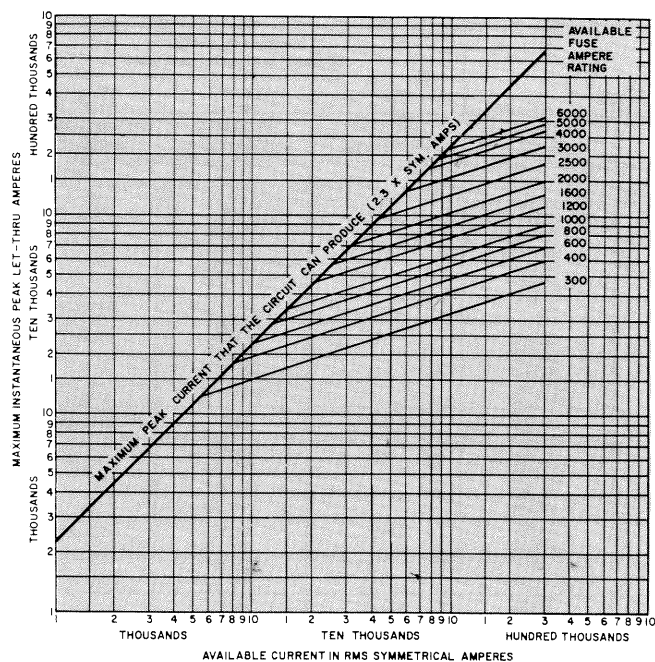
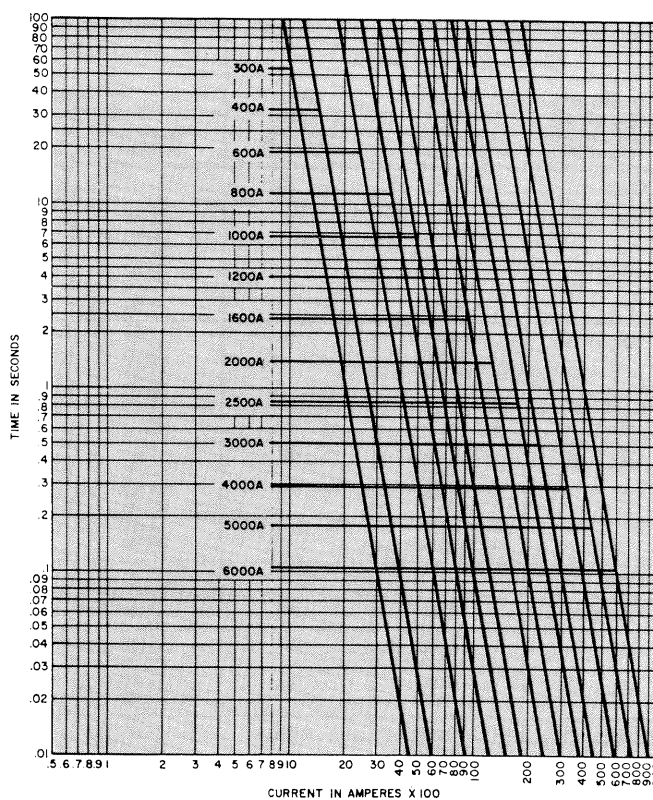

Figure 1
Figure 2
Figure 1 is a second aid in the selection of the proper Amp-Trap fuse sizes. However, Figure 1 is not to be used as the only criterion if, as in this case of molded-case circuit breakers, there is an I^2t limitation in the equipment to be protected by the fuse. (See Figure 2.)
1. The peak let-through current must not exceed the withstand capability of the equipment to be protected by the MBD circuit breaker. (a) If the equipment protected by the circuit breaker has a peak current withstand capability at least equal to that of the circuit breaker, fuse size selection may be made by using Table 36. (b) If the equipment protected by the circuit breaker has a peak current withstand capacity less than the circuit breaker, Figure 1 must be used to determine the maximum fuse size.
Draw a vertical line on Figure 1 representing the available symmetrical RMS amperes. Establish the intersection of this line with the peak amperes that the equipment is capable of withstanding. The fuse size represented by the fuse let-through curve passing below this intersection is the maximum fuse size that should be used. Of course, the smallest fuse size, consistent with coordination, provides the best protection.
When it is desired to plot specific coordination curves, the following procedure is suggested: (a) Replot the overcurrent device curve using actual amperes as the abscissa based on range selector amperes and pickup settings selected. The curves may be moved right or left to accommodate settings not plotted on published curves. A transparent overlay is helpful in this procedure. (b) Enter the fuse-melting time-current curve from Figure 2 on this newly plotted overcurrent device curve and examine for proper coordination. (c) When fuse size is dictated by protection needs, the fuse curve should be plotted first, and the
To illustrate the use of Figure 2, assume a fault current of 80,000 A symmetrical using a 300 A current-limiting fuse. Enter the table at 80,000 A sym. and project to the intersection of this line with the curve for the 300 A fuse, then project this point horizontally to a value of 30,000 peak let-through amps.